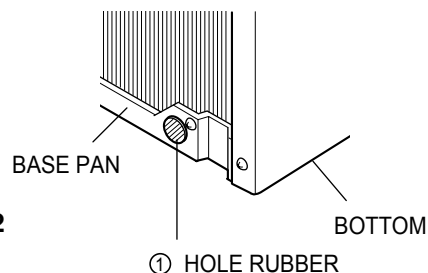

Figure 2
If the air conditioner is used in hot and a high humidity zone, exchange the ① HOLE RUBBER for the ② DRAIN PIPE. (See figure 2, figure 3.)